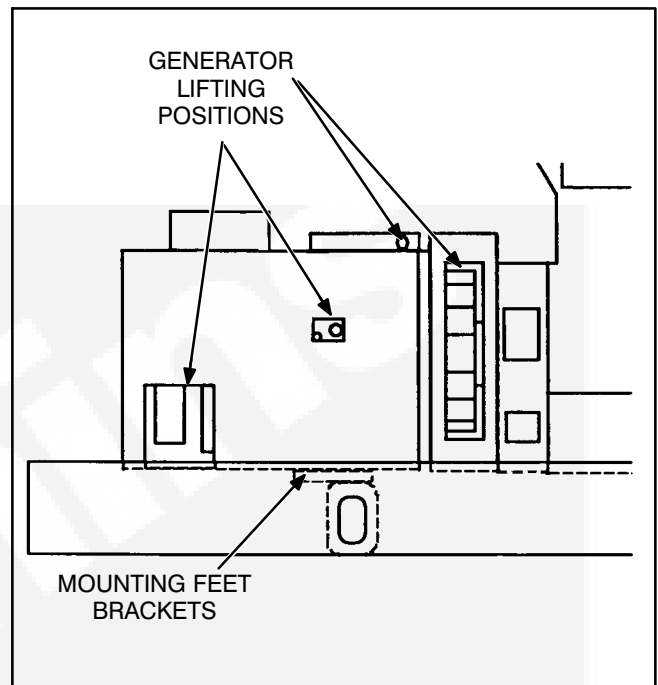

FIGURE 6-10. HC6 GENERATOR LIFTING POSITIONS
- Attach cables of lifting device to generator lifting points (Figures 6-10 or 6-11).
29. Attach cables of lifting device to generator lifting points (Figures 6-10 or 6-11).